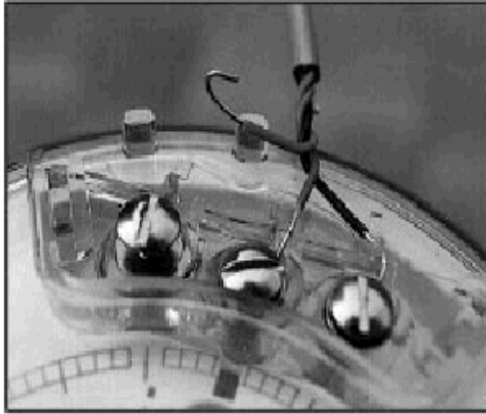

Figure 2.4 Wiring a Schlumberger Encoder Register
4. Connect one wire to each terminal screw as described in Table 2.4 and shown in Figure 2.4.